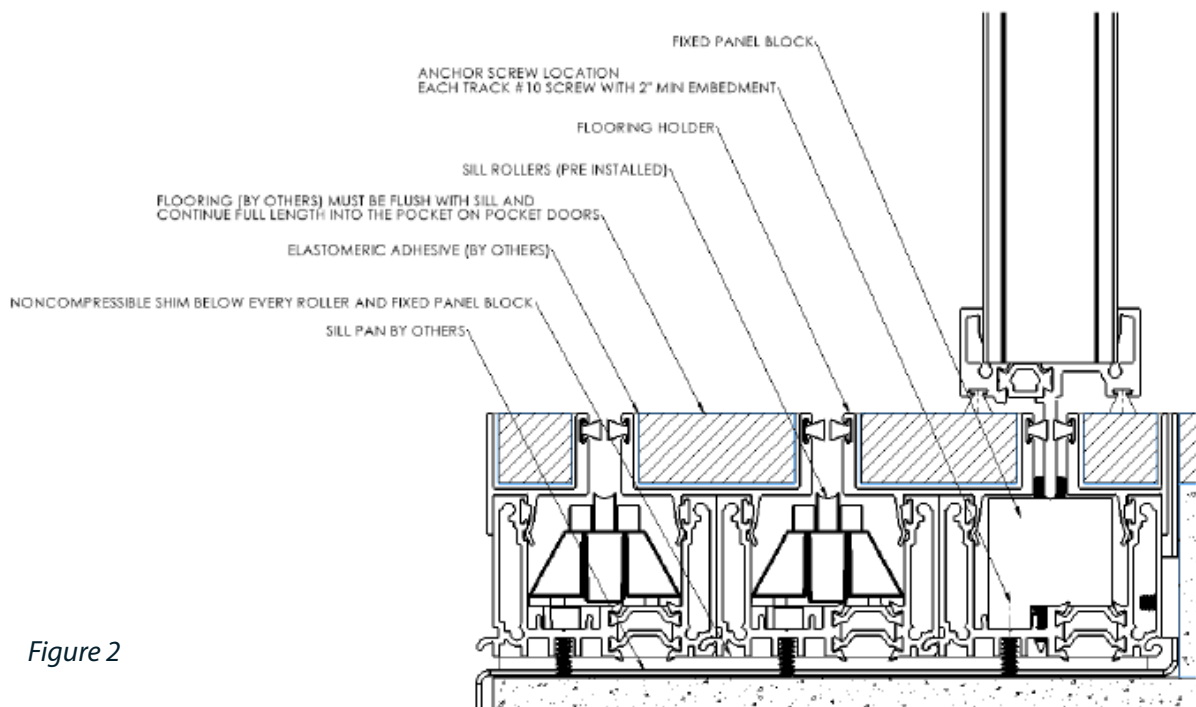

Figure 2
- Sill – holes should be drilled 6" from each end and every 24" on center per track. See **Figure 2**.